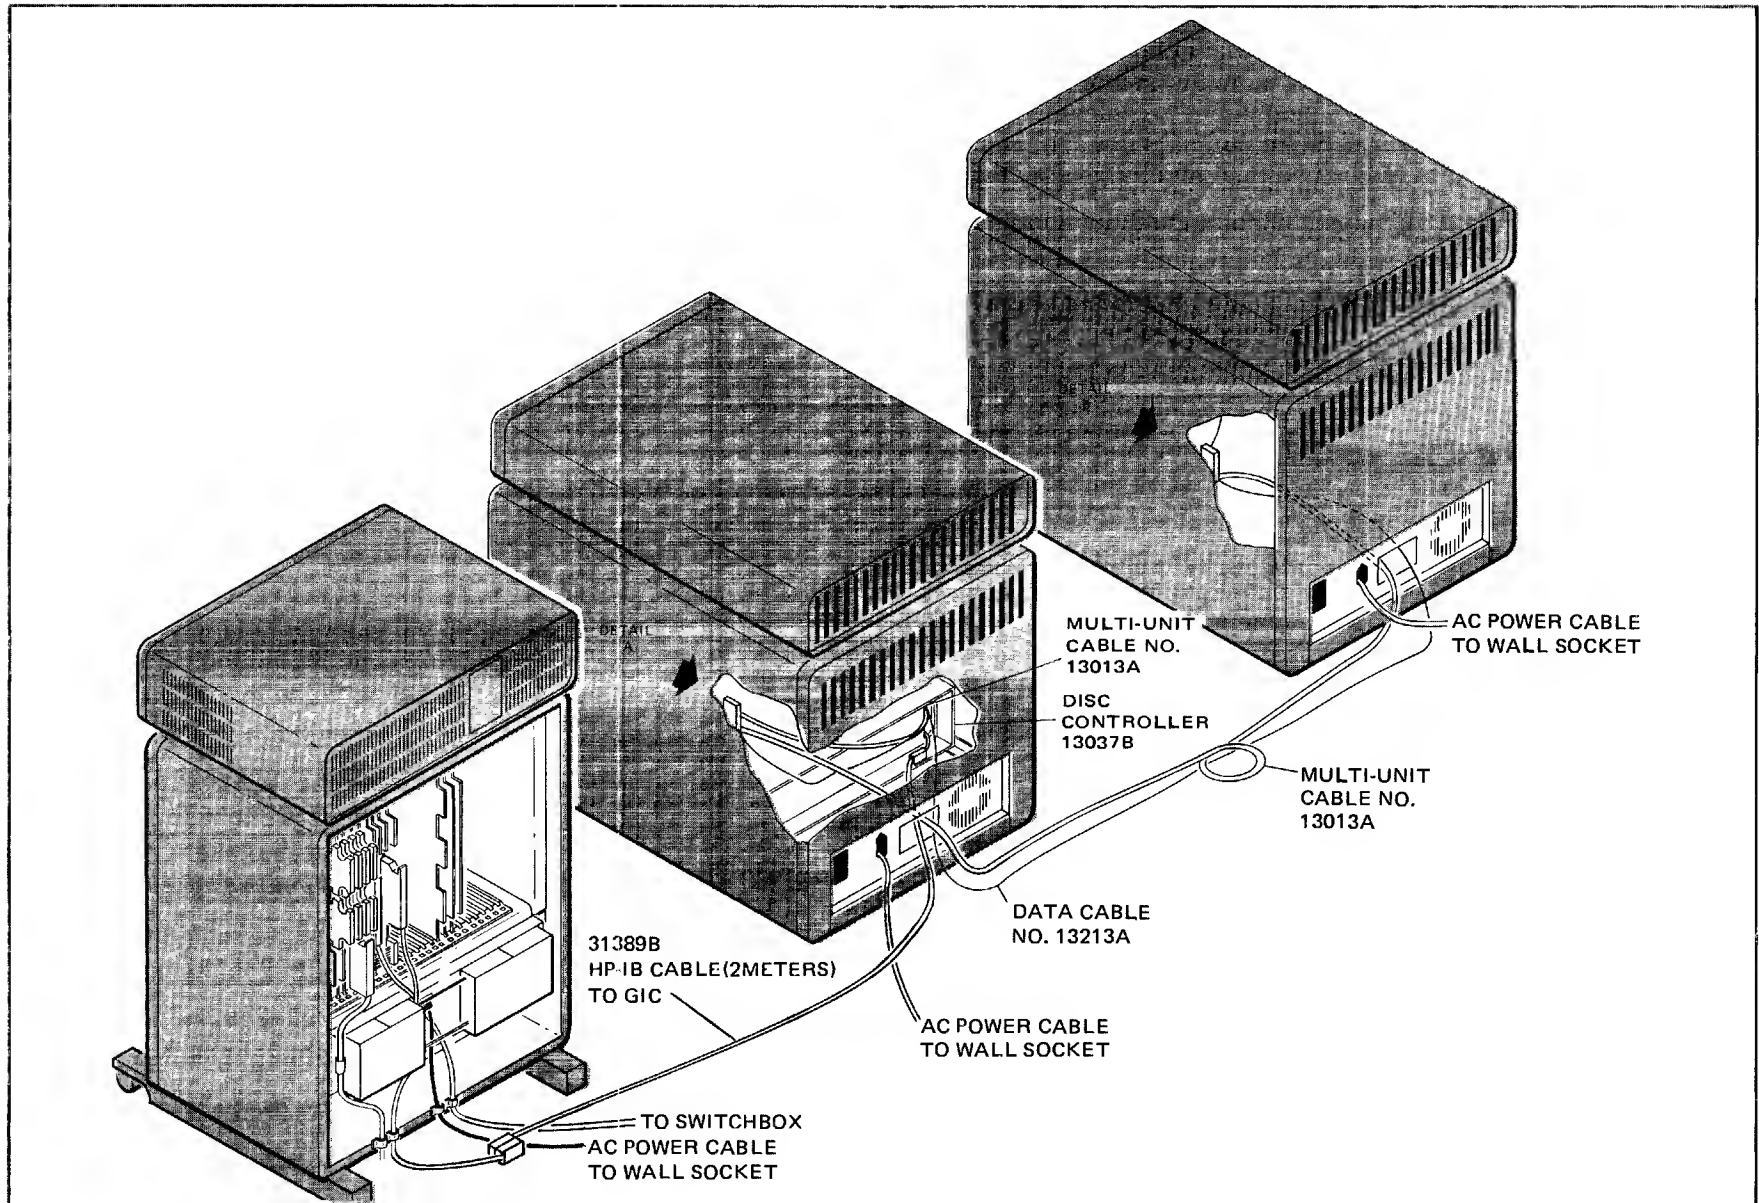

Figure 3-2. Master/Slave Disc Cabling
These discs, when used as the system disc, interface to the system via the HP-IB device I/O cable. The cable, located in the rear of the disc cabinet, has one end pre-connected onto the disc HP-IB I/O connector. Connect the free end to the system as described in the following procedure and shown in figure 3-2.
2. Route the HP-IB I/O cable to the processor I/O cable area as shown in figures 3-2 and 3-4. Appendix A identifies channel numbers.
3. Daisy-chain the slave disc(s) as shown in figure 3-2. Refer to the appropriate disc service manuals for additional information.